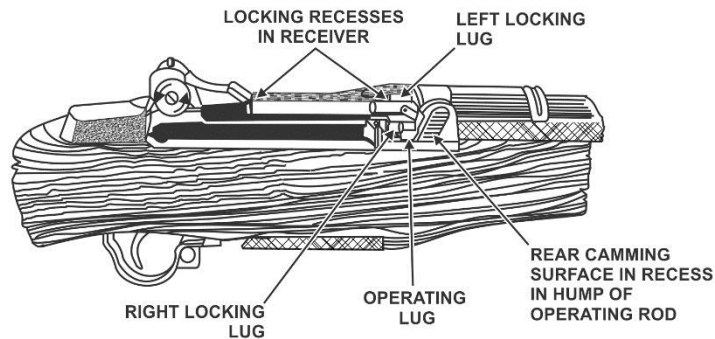

Figure 60. Locking
- 3) **Locking.** Locking is complete when the bolt is fully closed. The bolt is moved into its fully locked position through the camming action of the operating rod which forces the operating lug of the bolt down. This engages the locking lugs on the bolt with their recess in the receiver (fig 60).